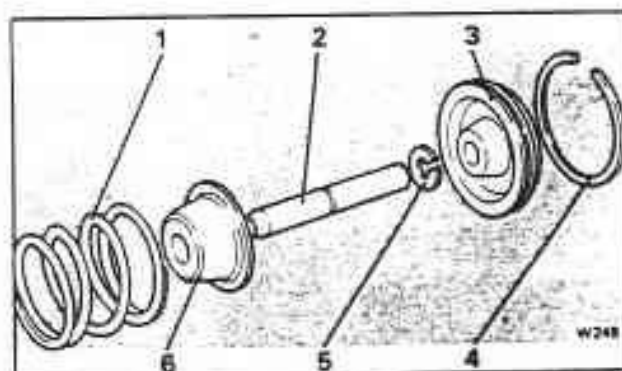

Fig. T14-7 Front servo
8. Lift the front servo piston, retaining ring, pin, retainer, and spring from the transmission case. An exploded view of the front servo is shown in figure T14-7.
If the transmission is in the car, the parts should be assembled as a group (see fig. T14-7) and fitted into the servo bore. A length of straight clean feeler gauge (approximately 0,51 mm (0.020 in)) should be used to hold the servo assembly temporarily in position as shown in